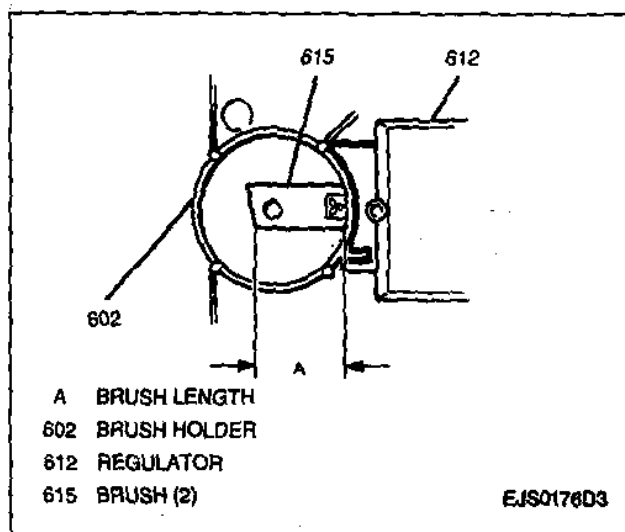

Figure 17—Measuring Brush Length
5. Length of each brush using a J 26900-5. Standard brush length is 16 mm (0.63-inch) (Figure 17). If the length is more than 2 mm (0.08-inch) from the standard length, replace the brush.